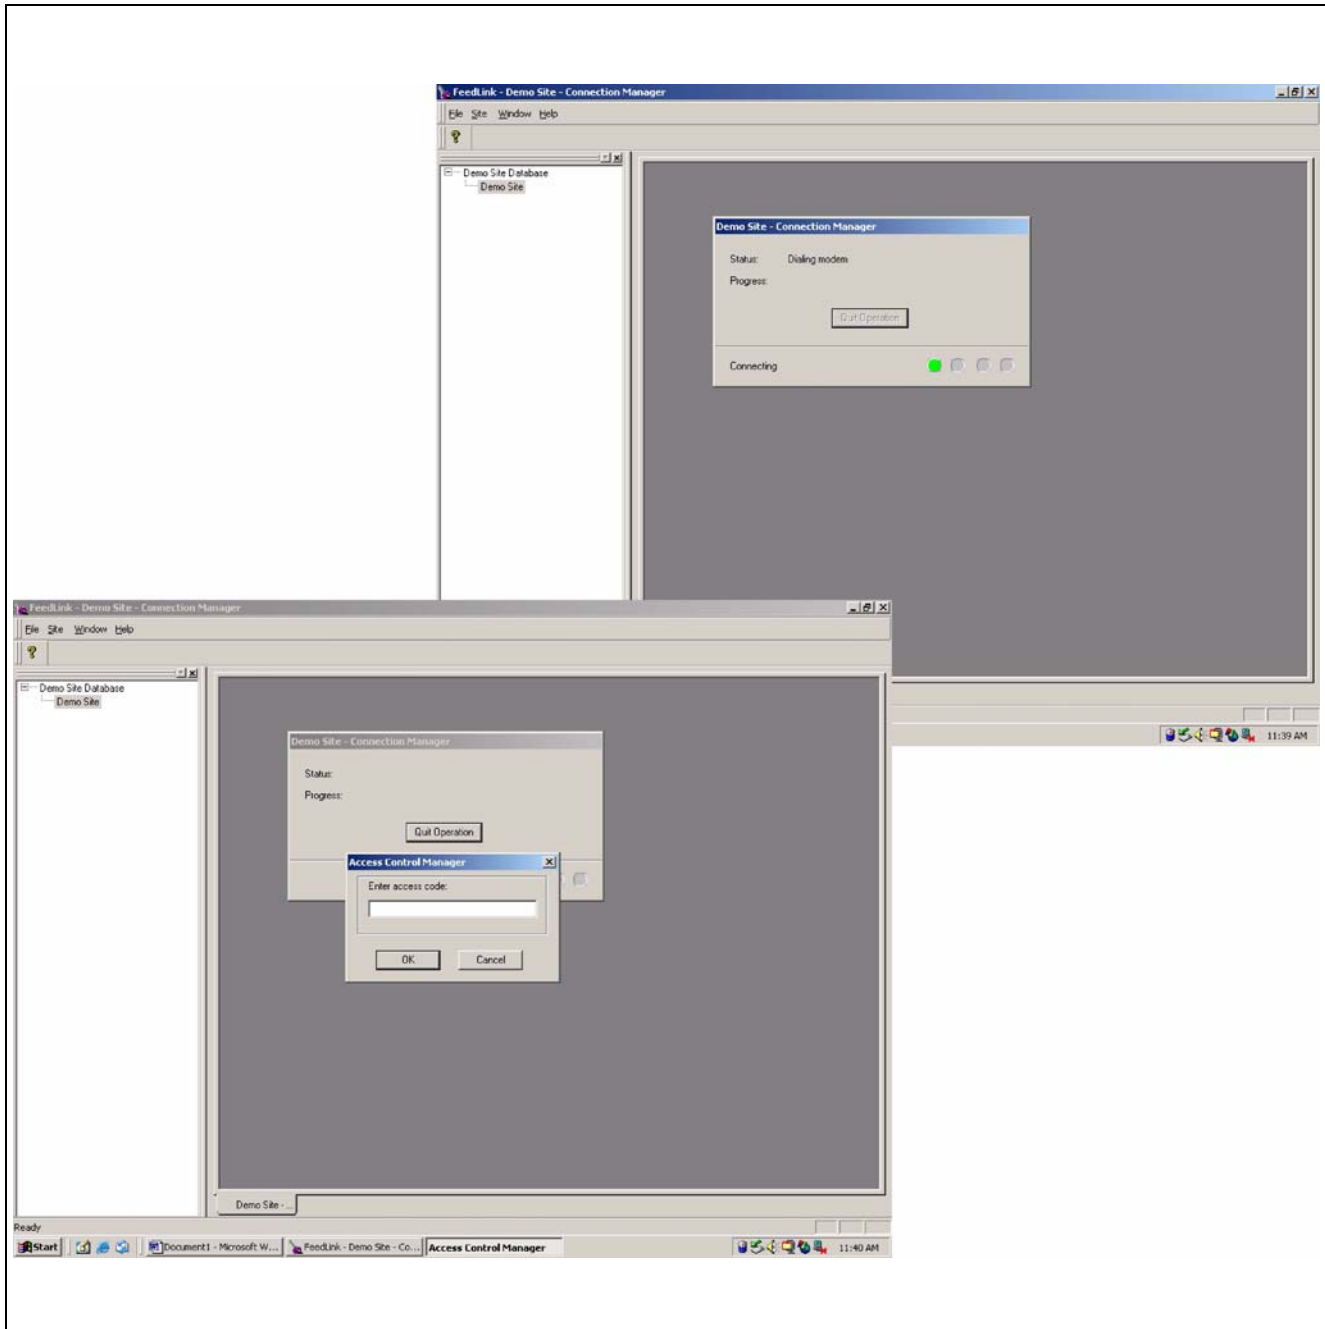

Figure 11i Enter access code after connection is made.
- a. Select a site like in setting up the properties above, but this time right click or select the monitor icon. A connection manager window will pop up and either make a direct or modem connection, whichever was selected in the properties. *(See Figure 11i.)*